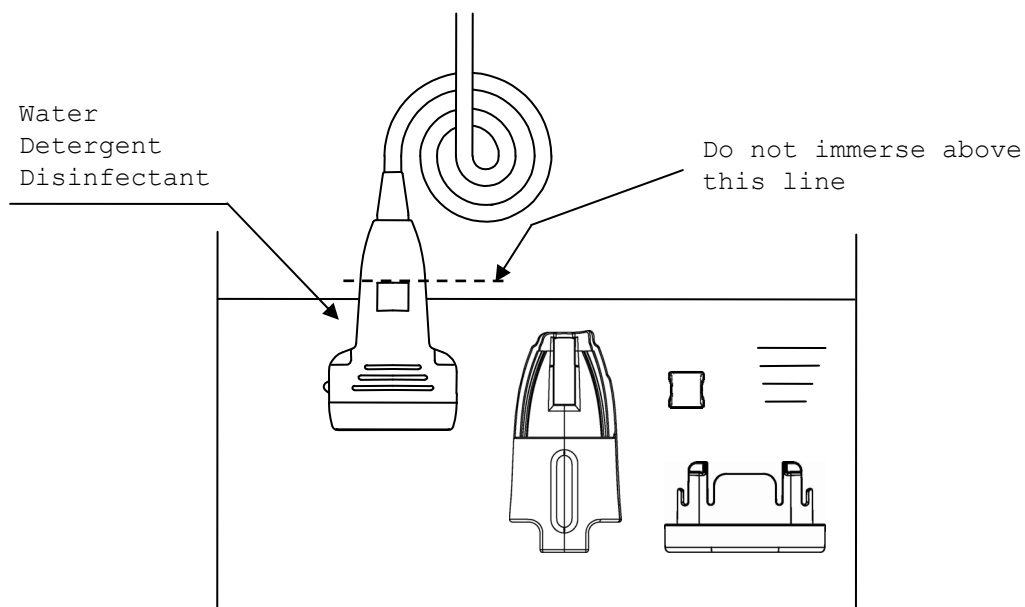

Fig. 15 Immersion of the probe, magnetic sensor attachment and the elasto coupler
- 2) Immerse the immersible part of the probe without connector into the diluted detergent solution (see Fig. 15). Wipe the immersible part of the probe under the surface of the detergent solution with a soft cloth to remove all visible soil. Be sure that all grooves of the probe are implemented during the cleaning process.
- 5) Rinse the probe with running tap water for 1 minute. (alternatively: immerse the immersible part of the probe in a tray filled with deionized water/tap water (see Fig. 15) for 5 min.)
- 4) Rinse the magnetic sensor attachment and the spacer for EZU-RV2S with running tap water for 1 minute. (alternatively: immerse them in a tray filled with deionized water/tap water (see Fig. 15) for 5 min.)
- 3) Immerse the immersible part of the probe into the disinfectant (see Fig. 15). Set a clock to insure the recommended contact time which is 5 minutes.
- 4) Rinse the immersible part of the probe with deionized water for 1 minute. (alternatively: immerse the immersible part of the probe in a tray filled with deionized water (see Fig. 15) for 5 min.)
- 2) Immerse the magnetic sensor attachment and the spacer for EZU-RV2S into the disinfectant (see Fig. 15). Set a clock to insure the recommended contact time which is 5 minutes.
- 3) Rinse the magnetic sensor attachment and the spacer for EZU-RV2S with deionized water for 1 minute. (alternatively: immerse them in a tray filled with deionized water (see Fig. 15) for 5 min.)